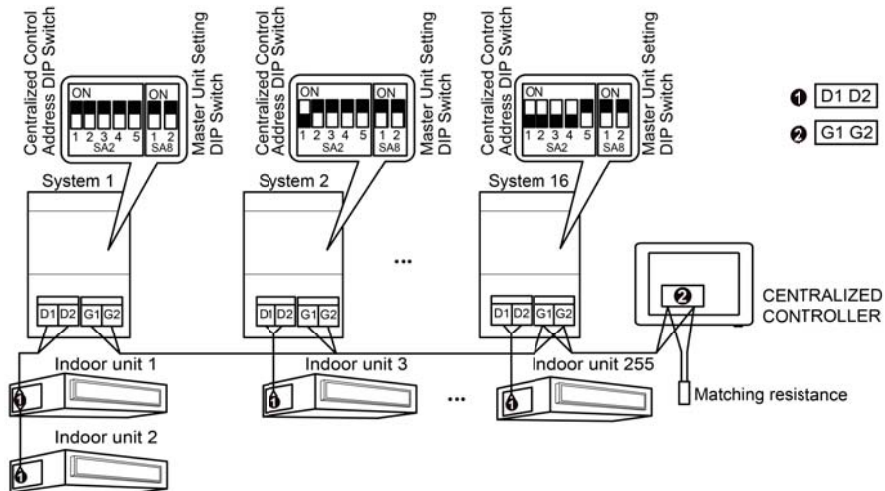

Fig. 3.5 Centralized controller connects to network of outdoor units
- (3) When the centralized controller is connected to the outdoor unit network, connect the network as shown in Figure 3.5. The centralized controller can only be connected to the last system of the outdoor unit system, and needs to be connected with matching resistors at the G1 and G2 interfaces together with the communication cable.